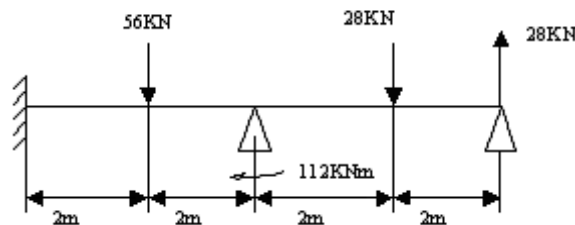

Figure 2:
3. Compute the support reaction at the other end of continuous beam shown in figure 2. use the concept of boundary element $EI=400$ units. [16]